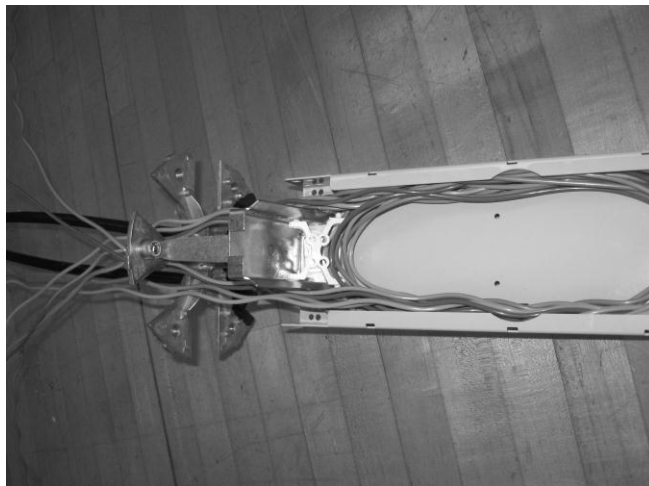

Figure 8 – Store buffer tubes in slack storage basket.
4.12 *Route Buffer Tubes and Fibers:* Route the loose buffer tubes into the slack storage basket. Store about two wraps of buffer tube from each cable in the slack storage basket (Figure 8).